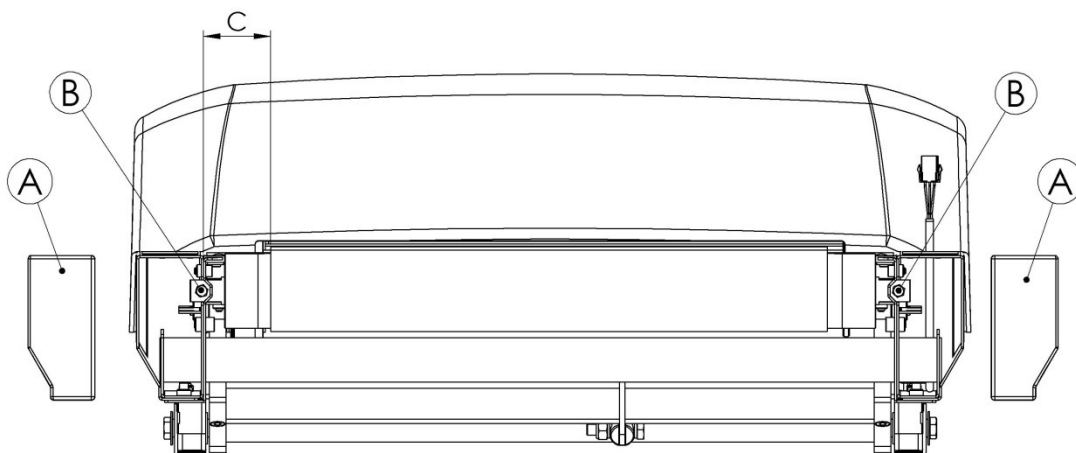

Figure 3
1. Remove the caps (figure 3, A)
5. To prevent from unnecessary disturbance of the run belt alignment the number of turns should be kept equal on both screws (figure 3,B)